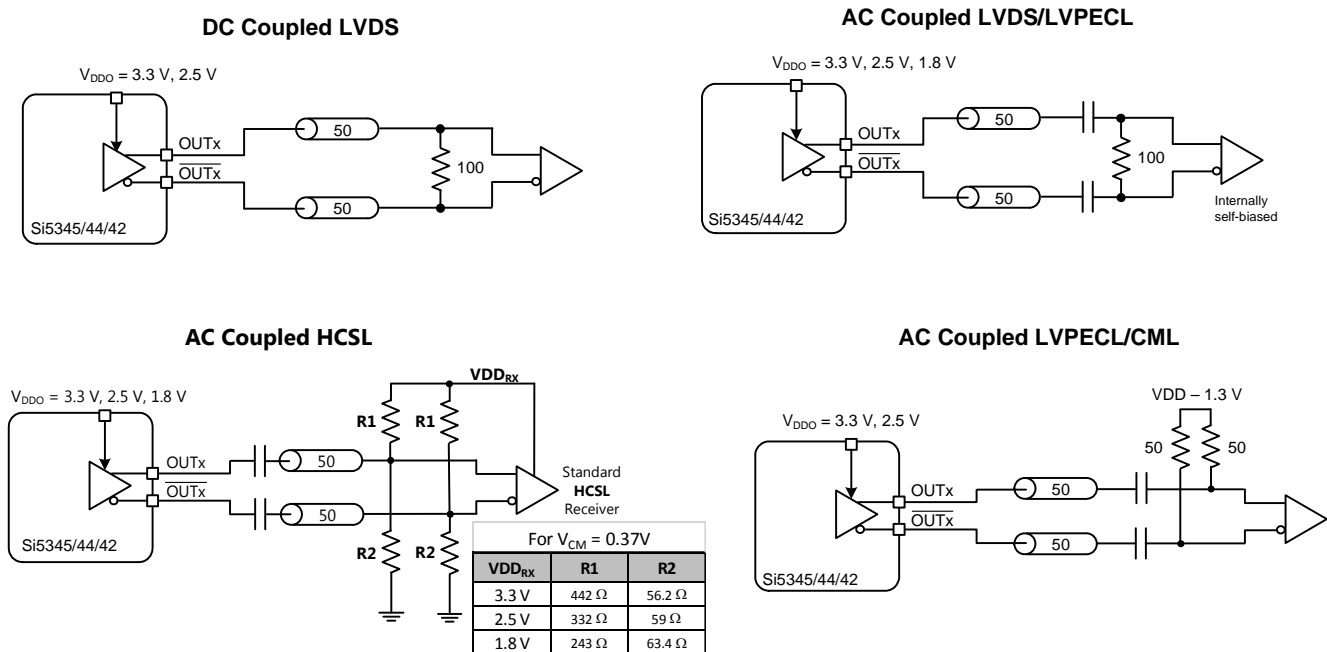

Figure 17. Supported Differential Output Terminations
The differential output drivers support both ac and dc-coupled terminations as shown in Figure 17.
- **Differential Normal Swing Mode**—This is the usual selection for differential outputs and should be used, unless there is a specific reason to do otherwise. When an output driver is configured in normal swing mode, its output swing is selectable as one of 7 settings ranging from 200 mVpp\_se to 800 mVpp\_se in increments of 100 mV. Table 18 lists the registers that control the output voltage swing. The output impedance in the Normal Swing Mode is 100  $\Omega$  differential. Any of the terminations shown in Figure 17 are supported in this mode.
- **Differential High Swing Mode**—When an output driver is configured in high swing mode, its output swing is configurable as one of 7 settings ranging from 400 mVpp\_se to 1600 mVpp\_se in increments of 200 mV. The output driver is in high impedance mode and supports standard 50  $\Omega$  PCB traces. Any of the terminations shown in Figure 17 are supported. The use of High Swing mode will result in larger pk-pk output swings that draw less power. The trade off will be slower rise and fall times.